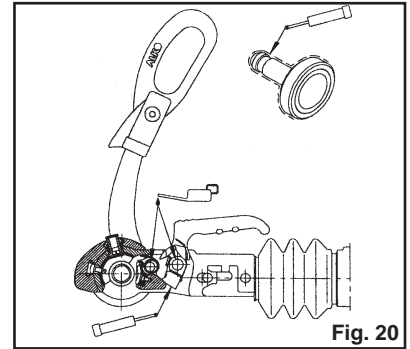

Fig. 20
b) Areas may only be covered with a thin film of grease (Fig. 20).